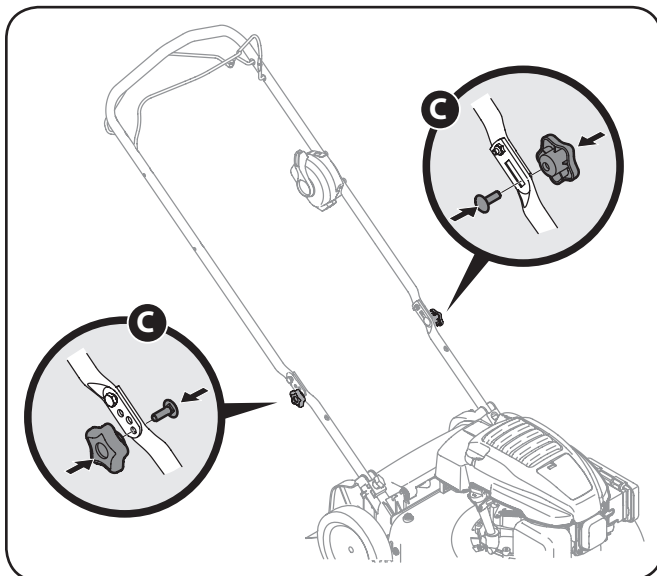

Figure 3-5
- c. Reattach star knobs and carriage bolts removed earlier into lower holes of handle as shown in Figure 3-5.